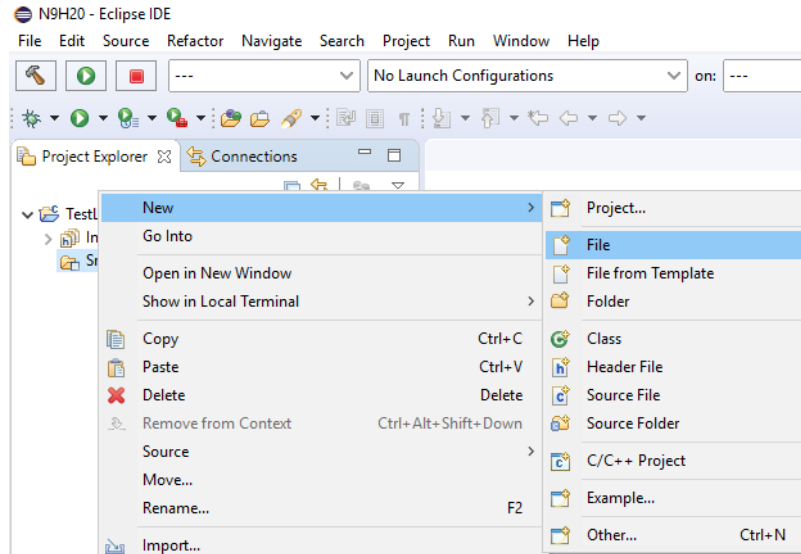
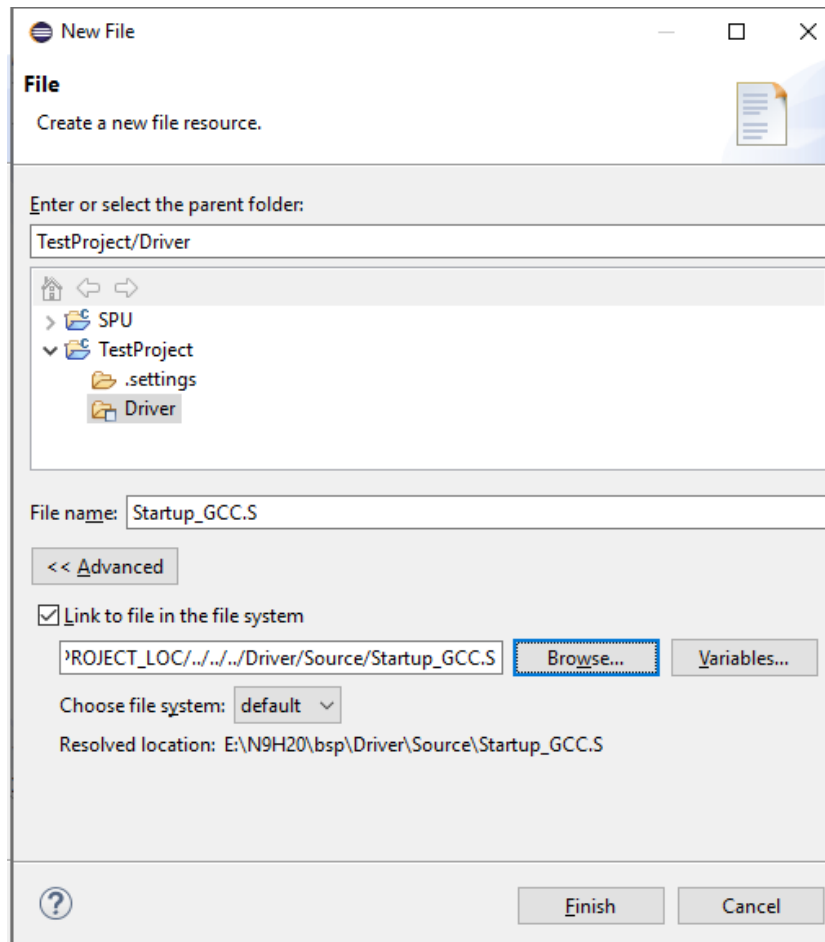

Figure 2-16 Setup New File
Figure 2-17 Add Startup Initial Code in Folder
6. If the created project is a executable one, please also add startup code into “Driver” virtual folder as shown in Figure 2-16 and Figure 2-17, respectively.